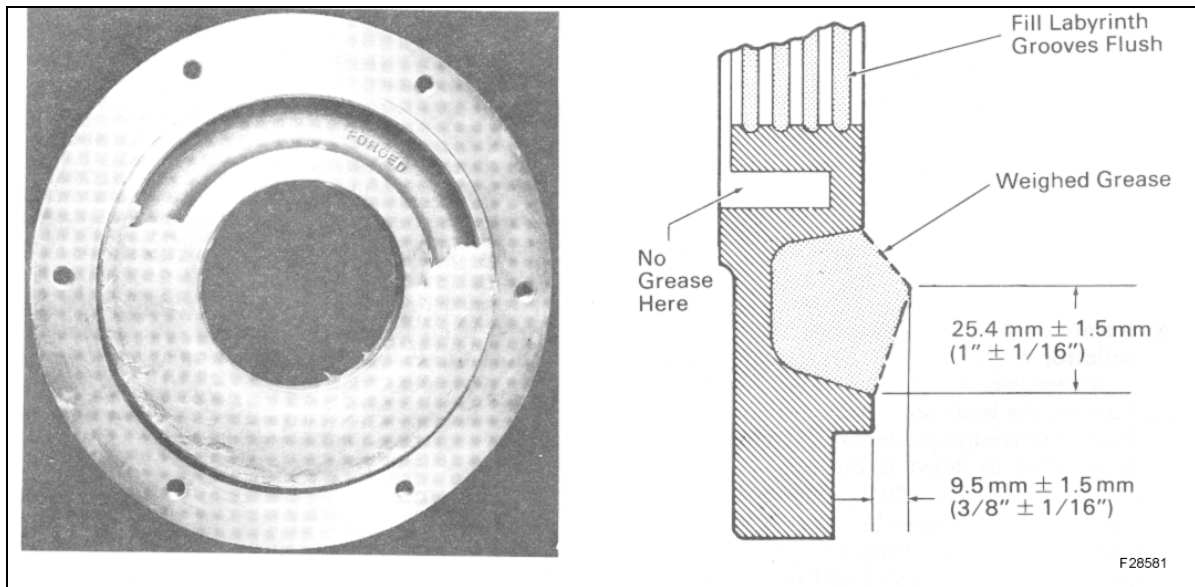

Figure 9 Application of Grease to Bearing Cover
17. Pack grease into bearing cover groove. Leave a space free of grease at the top of the bearing cover to limit churning and liquefaction of the grease. Form grease to proper contour as shown in Figure 9.
9. Pack the grease into bearing cap groove. Leave a space at the top of the bearing, as shown in Figure 9, to limit churning and liquefaction of the grease. Form grease to proper contour as shown in Figure 9.